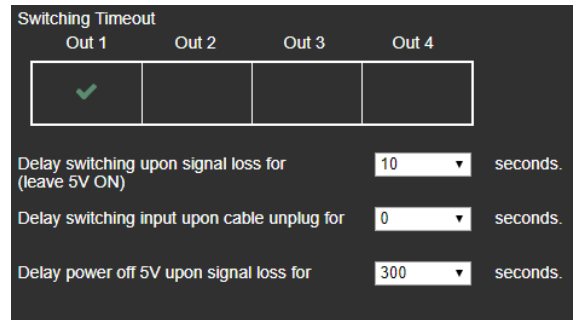

Figure 19: Switching Timeout
1. Select outputs (Out 1 – Out 4) shown in Figure 19.
2. Using the menu shown in Figure 19, you can set: